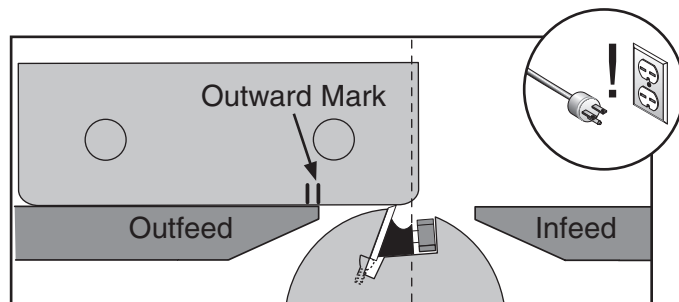

Figure 16. Knife gauge positioned over cutterhead knife.
5. Place the knife setting gauge on the front of the outfeed table so the gauge extends over the cutterhead and the outward mark is at the edge of the outfeed table (**Figure 16**).